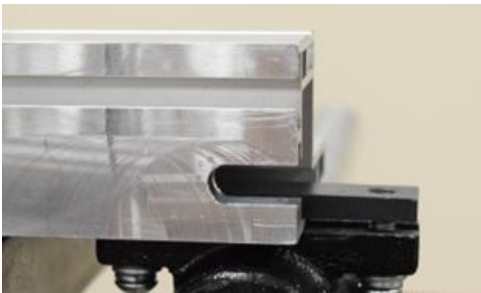
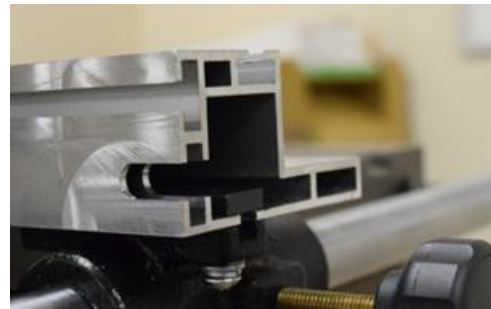

Fig. 35
Fig. 36
3. Rotate the fence right 90°, turning it to the low position, and slide it all the way back into the plate (Fig.35, Fig.36).